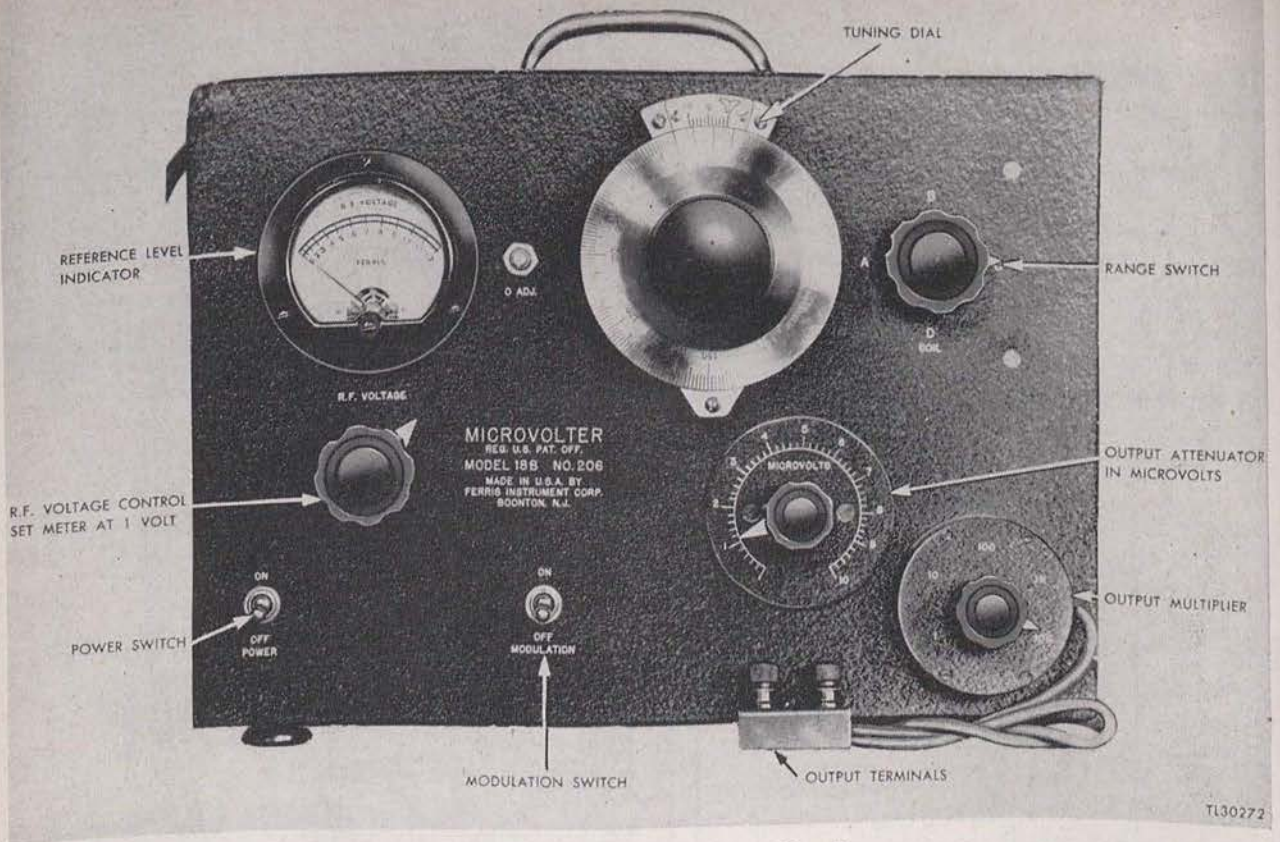

Figure 15. Ferris microvolter, model 18B.
(1) *Switches* (fig. 15). (a) The POWER switch, located at the lower left corner of the front panel, is used to turn on or off the a-c power to the instrument.